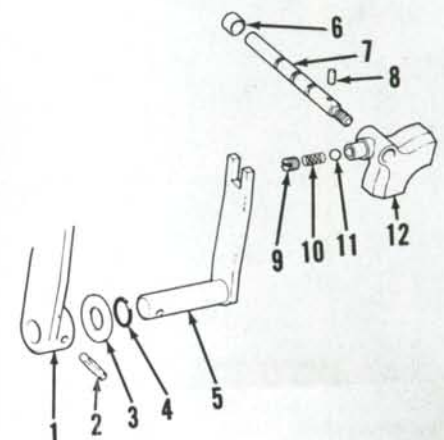

Fig. 230—Exploded view of typical pto shift linkage. Some models use a retainer plate to secure shift rod (7) in place of pin (8).
299. **REASSEMBLY.** Install new "O" ring (4—Fig. 230) in housing shift arm bore. Assemble shift arm (5) and shift lever (1) using shims (3) as necessary to provide 0.13-0.25 mm (0.005-0.010 inch) end play.
To reassemble shift fork (12—Fig. 230), insert a 13 mm (½ inch) x 30 mm (1¼ inches) dowel into shift rod hole in fork. Assemble detent ball spring and plug in fork and tighten plug until outer end is even with chamfer in shift fork. Install fork on sliding gear, install spacer (6), then push shift rod (7) into fork until it moves dowel out of fork and detent ball engages with shift rod. Install special pin (8) into housing and shift rod making sure end of pin with the hole faces upward.